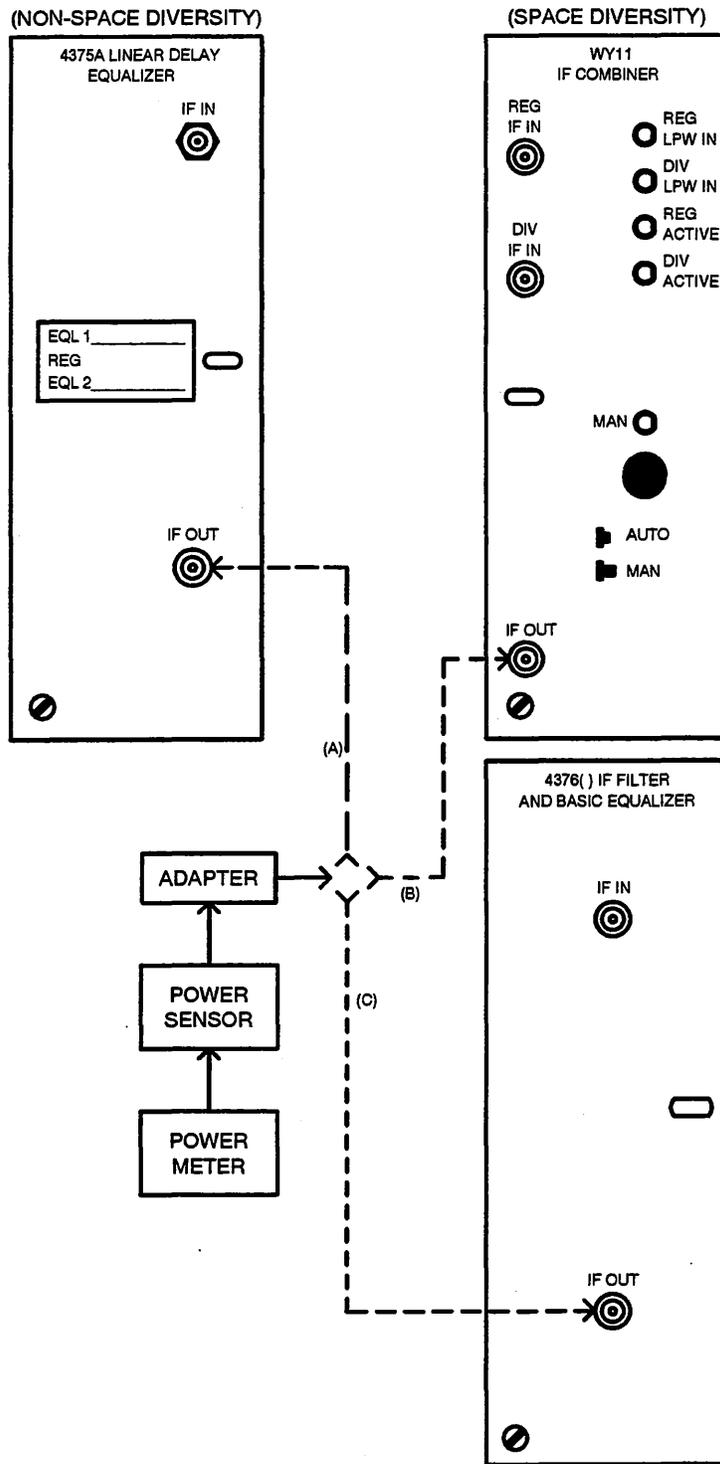

Figure 11 - IF Filter and Basic Equalizer Check
- Refer to Figure 11.
3. Condition the power meter to measure the expected power level (normally  $-7 \text{ dBm}$ ), and connect it to the IF OUT jack on the LINEAR DELAY EQUALIZER unit (Figure 11, Option A). Record the power meter indication.
6. Condition the power meter to measure the expected power level (nominal is  $-7 \text{ dBm}$ ), and connect it to the IF OUT jack of the IF COMBINER unit (Figure 11, Option B). Record the power meter indication.
9. Condition the power meter to measure the expected power level (nominal is  $-18 \text{ dBm}$ ), and connect it to the IF OUT jack of the IF FILTER AND BASIC EQUALIZER unit (Figure 11, Option C).